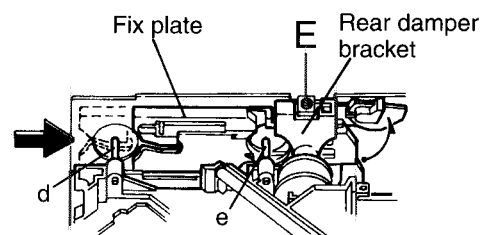
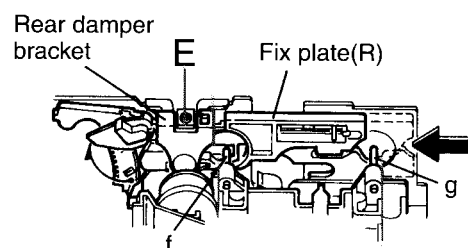

Fig.8
Fig.9
- 2.While shifting the fix places on the right and left Sides respectively to the arrow direction, lower the entire CD mechanism. When the shafts(d , e , f and g) on both the right and left sides have been set free as shown in Fig.8 and Fig.9,then the assembly can be removed easily.Remove the two screws E retaining the rear damper bracket to make it easier to remove the damper from the rear damper bracket(See Fig.1, Fig.8 and Fig.9).